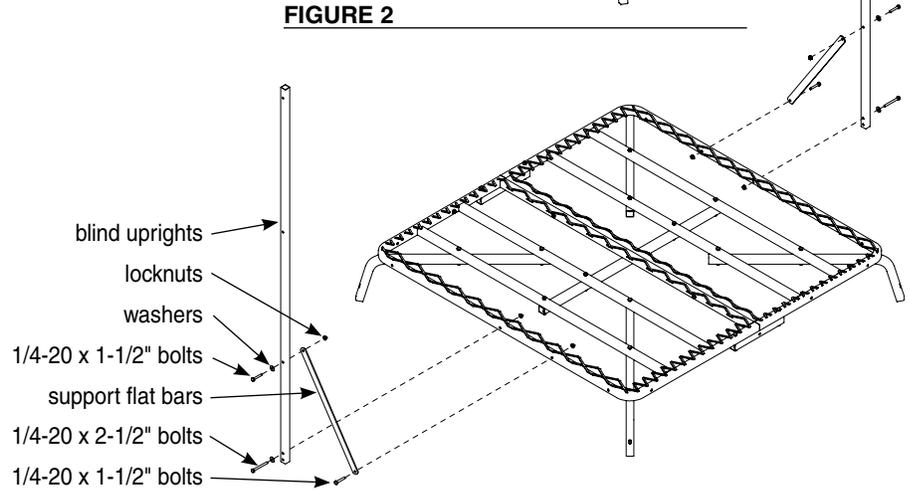

FIGURE 3
- Attach (2) blind uprights (TWR18) to the long sides of both platforms using (2) provided 1/4-20 x 2-1/2" bolts, locknuts and washers. **SEE FIGURE 3.**
- Attach (4) upright support flat bars (SL8) to the blind uprights and platform using (8) provided 1/4-20 x 1-1/2" bolt, locknuts and (4) washers. **SEE FIGURE 3 & 4.**